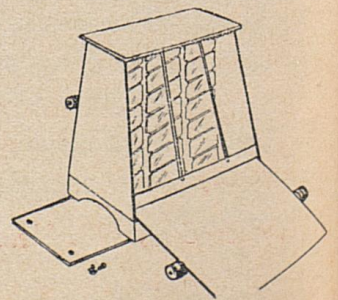

Fig. 28
2. Never put toaster in water to clean. Use a damp cloth—not wet—to wipe off inside. Whiting (page 32) and soap or any mild abrasive may be used to clean stains or grease spots from metal parts of toaster. A soft bristle brush should be used for cleaning bread crumbs from inside. It may be necessary to remove bottom plate. Fig. 28.